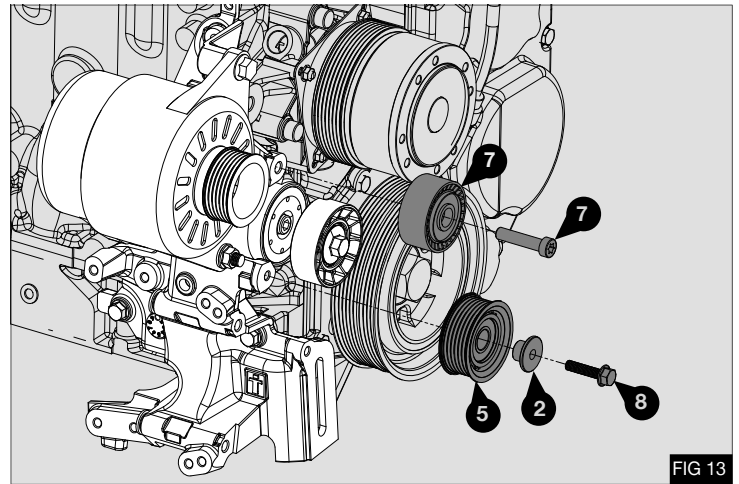

FIG 13
13. Torque fastener (B) to 45Nm / 33Lbft
14. Fit reverse idler pulley assembly (7) - Fig 13
15. Torque bolt (7) to 45Nm / 33Lbft
16. Fit grooved idler pulley (5) using M8 x 35 bolt (8) with spacer (2) - Fig 13
17. Torque bolt (8) to 35Nm / 26lbft